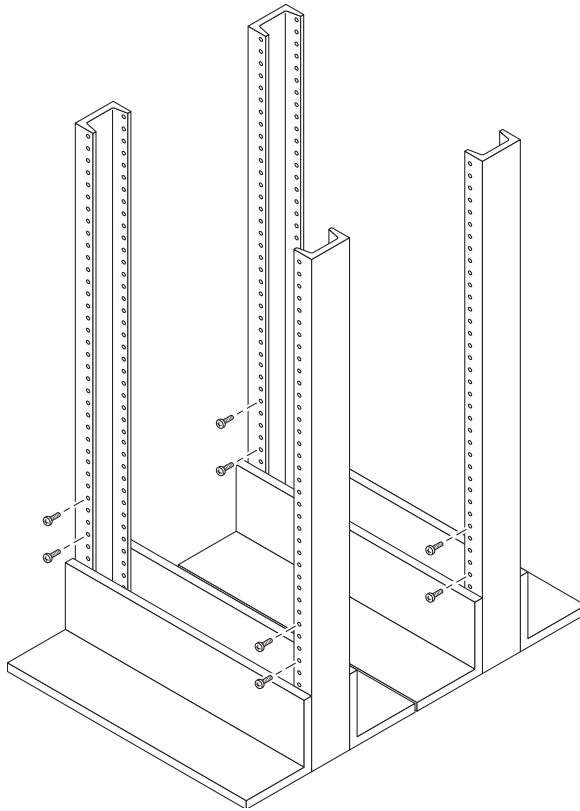

FIGURE 11 Inserting Screws in the Front and Back Mounting Holes of the Telco 4-Post Rack
1. Insert eight 12-32 screws (two in each post) in the back mounting holes of the left and right posts (FIGURE 11). Do not tighten at this time.